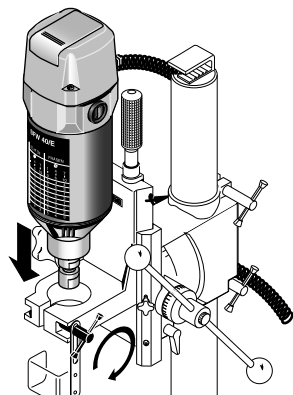

Fig. 2
1. Insert the machine in a secure drilling stand (Fig. 2) and tighten the clamp.